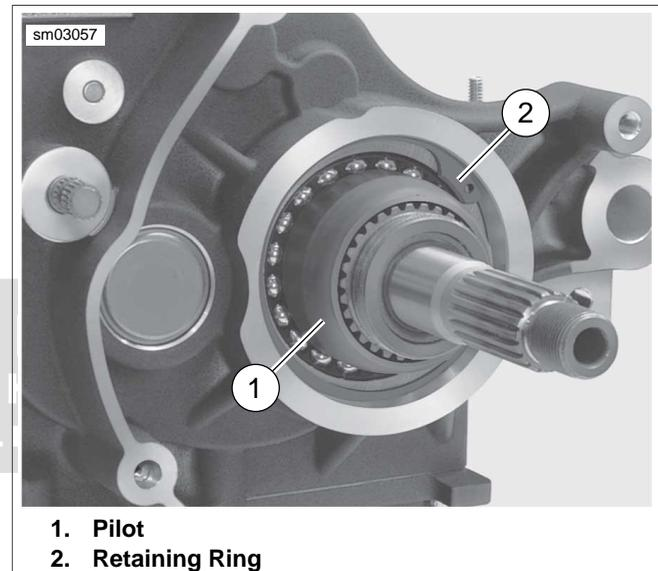

Figure 7-49. Install Pilot
- See Figure 7-49. Install new retaining ring (2).
- See Figure 7-49. From outside of crankcase, install PILOT (Part No. HD-47856-2) over end of main drive gear bearing inner race.